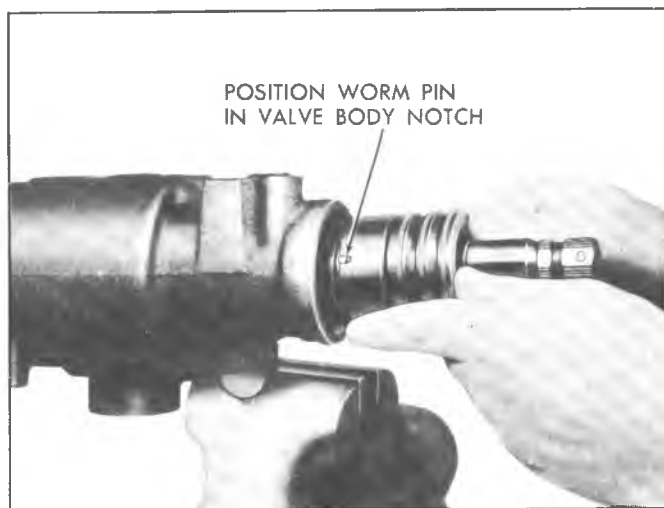

Fig. 55-Valve to Worm Alignment
2. Lubricate the valve body teflon rings and a new stub shaft cap "O" ring with Power Steering Fluid. Install the stub shaft cap "O" ring in the valve body so it is seated against the stub shaft cap. Align the NARROW NOTCH in the valve body with the pin in the worm, then install the valve and stub shaft assembly in the gear housing (fig. 55). Apply pressure to the VALVE BODY when installing. If pressure is applied to the stub shaft during installation, the stub shaft may be forced out of the valve body (fig. 56).